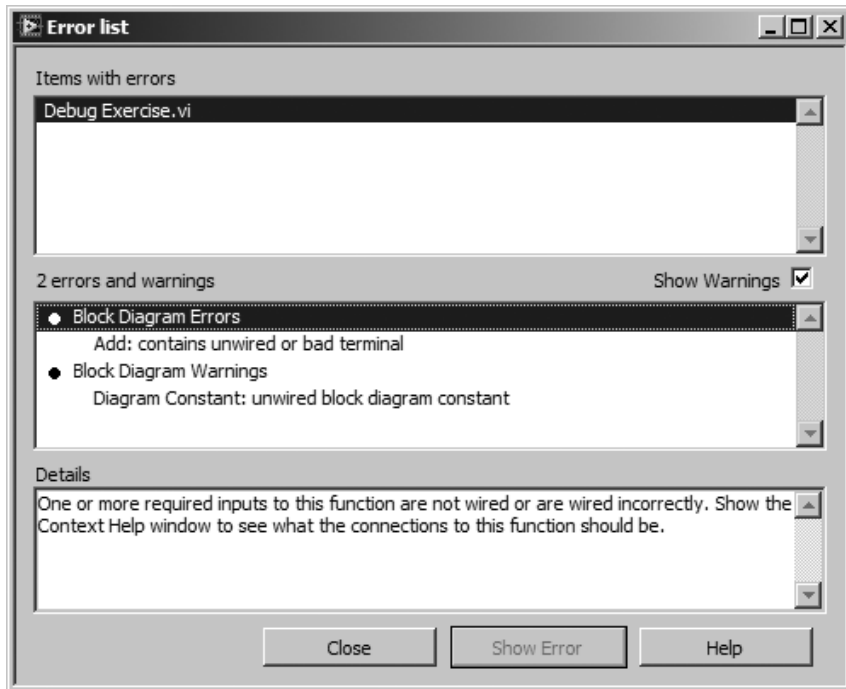

Figure 5.10
4. Click on the “Add: contains unwired or bad terminal” error. The Error List window, shown in Figure 5.10, will give you a more detailed description of the error. Now double-click on the error, or click the Find button. LabVIEW will highlight the offending function in the block diagram, to help you locate the mistake.